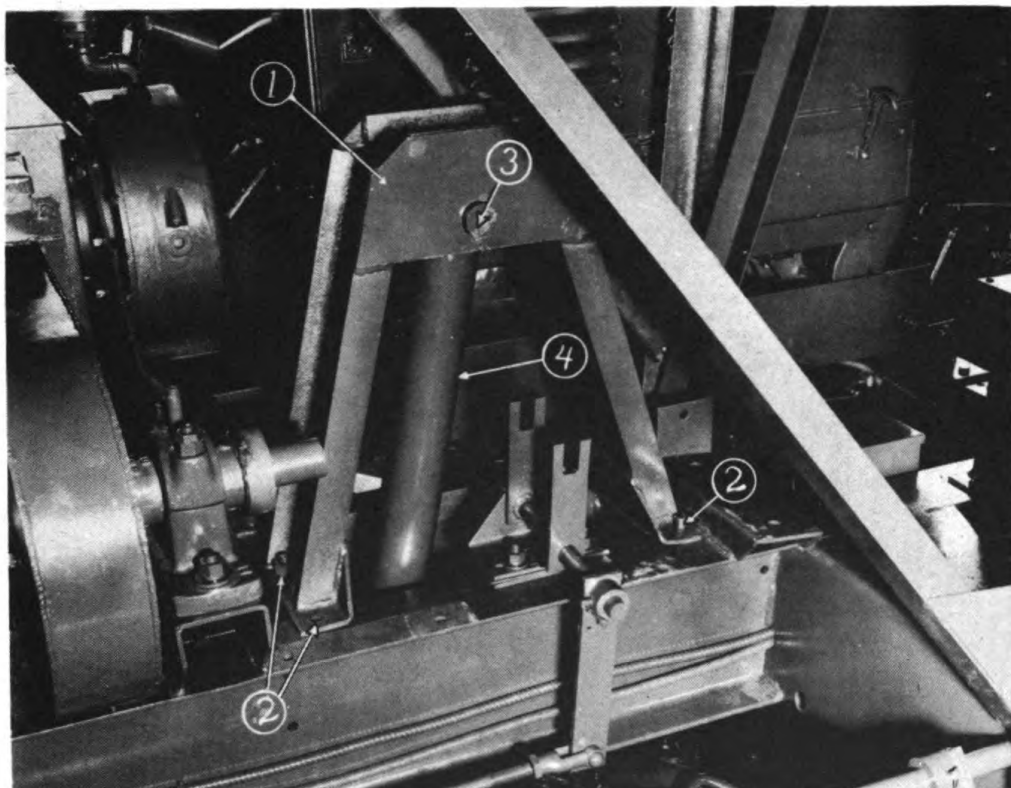
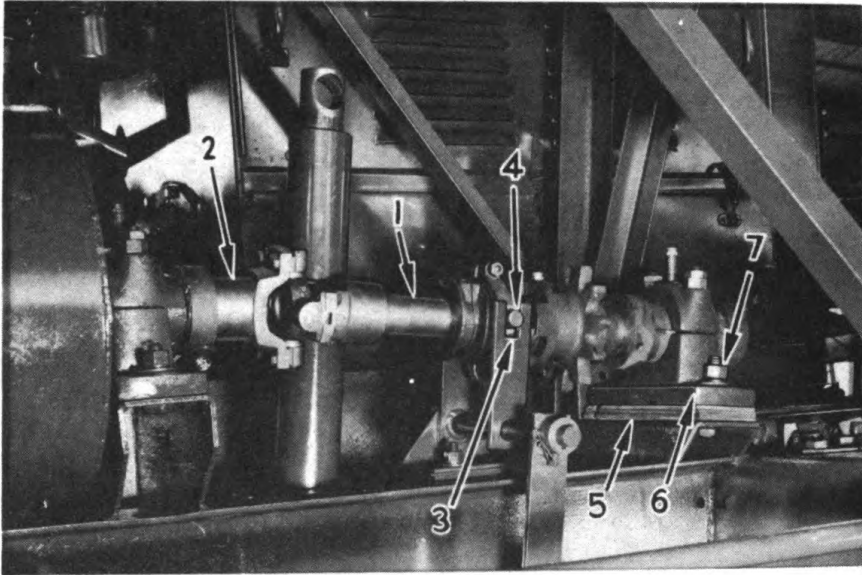

FIG. 44 - HYDRAULIC HOIST "A" FRAME SUPPORT .
FIG. 45 - "COLD ELEVATOR EXTENSION DRIVESHAFT."
When the dryer is set up for travel dryer operation, the "A" frame supports for the hydraulic rams are installed in place as shown in Fig. 44. When the dryer is set up for central plant operation the ram support frame (1), must be removed before the elevator driveshaft extension can be installed. To remove the ram support frame, first make sure that the weight of the dryer is either borne by the latch dogs on the towing frame or by the front end cribbing. Release the hydraulic pressure in the rams. Remove the bolts (2), at the base of the "A" frame that secure it in position. Remove the pin (3) at the top of the "A" frame that extends through the top of the hydraulic plunger. The "A" frame can then be removed. The hydraulic ram assembly (4) need not be removed, but should be moved away from the shaft extension and secured by wire so that it will not interfere with the shaft or the elevator drive chain. Refer to Fig. 45. Lift the driveshaft extension (1) into position for installing, insert the key in keyway of driveshaft and slide the hub (2), of the extension shaft universal joint onto the driveshaft. Guide the slotted ends of the shifter fork (3) over the ears of the shifter yoke (4) as shown. Insert sufficient shims (5) under bearing (6) to make the extension shaft level, insert bolts (7), in bearing base and tighten slightly. Move the bearing end of the shaft toward or away from the engine, as necessary to square up the shaft transversely. Turn down bearing bolts tight.